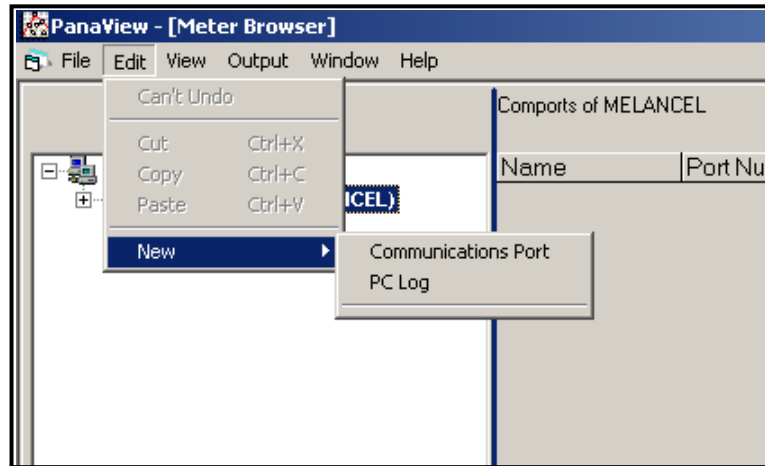

Figure 33: Edit Menu
4. Click on the *New* menu option to select it, and a submenu opens with two choices on it (see Figure 33).